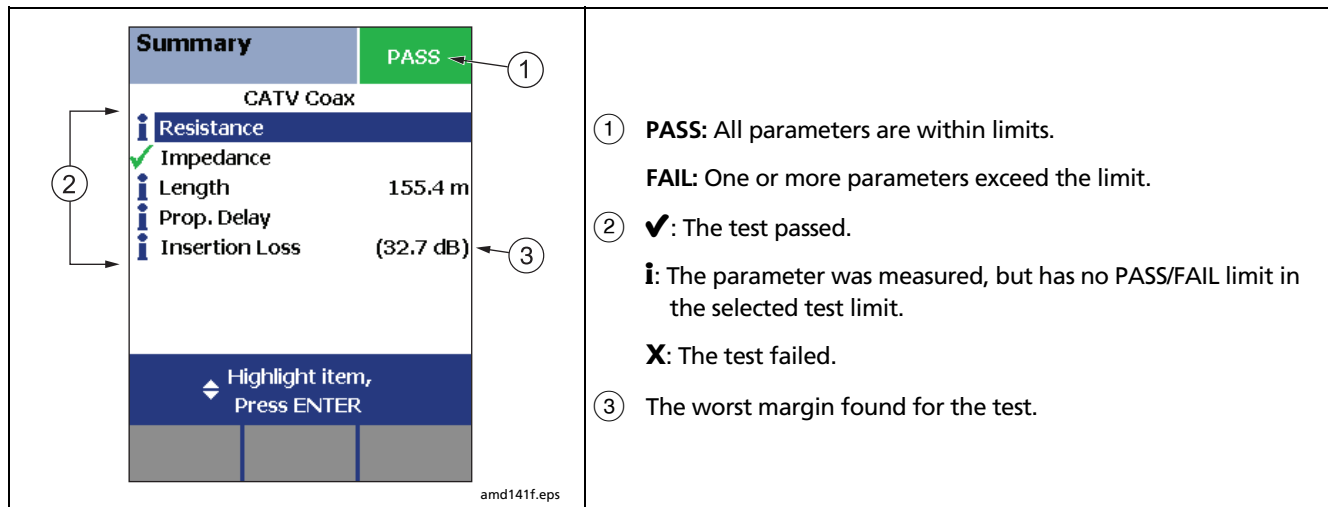

Figure 20. Autotest Results for Coaxial Cabling
- 6 The tester shows the Autotest **Summary** screen when the test is complete (see Figure 20 on page 40). To view results for a specific parameter, use   to highlight the parameter; then press .
Figure 20 describes the Autotest **Summary** screen.